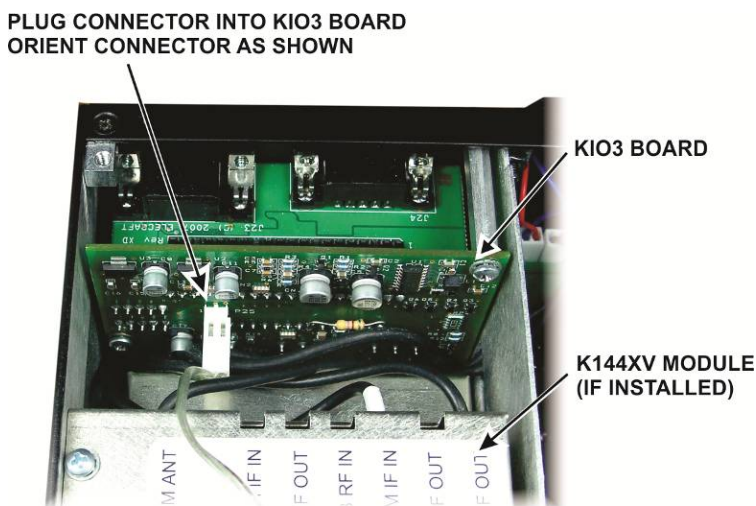

Figure 17. Plugging the Speaker Wire into the KIO3 Board.
- Plug the speaker wire into P25 on the KIO3 board at the left rear of the K3 as shown in Figure 17.